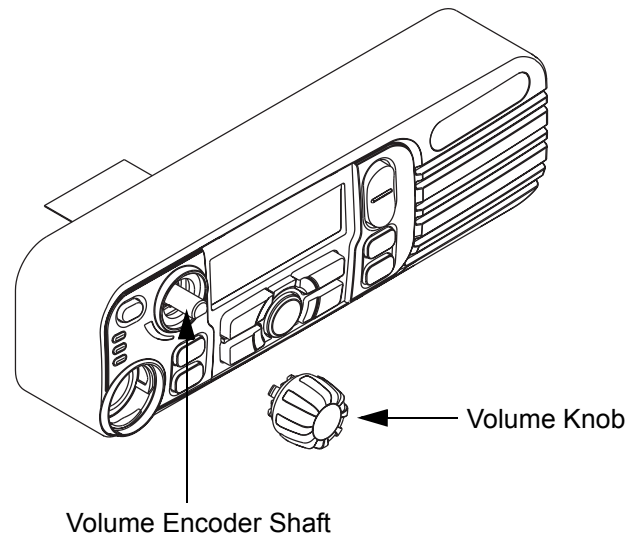

Figure 5-31 Volume Knob Assembly
9. Orient the volume knob so that the internal D-shaped opening matches the volume encoder shaft and press the volume knob into the control head assembly until the snap features are engaged and the knob rotates freely. Refer to Figure 5-31.